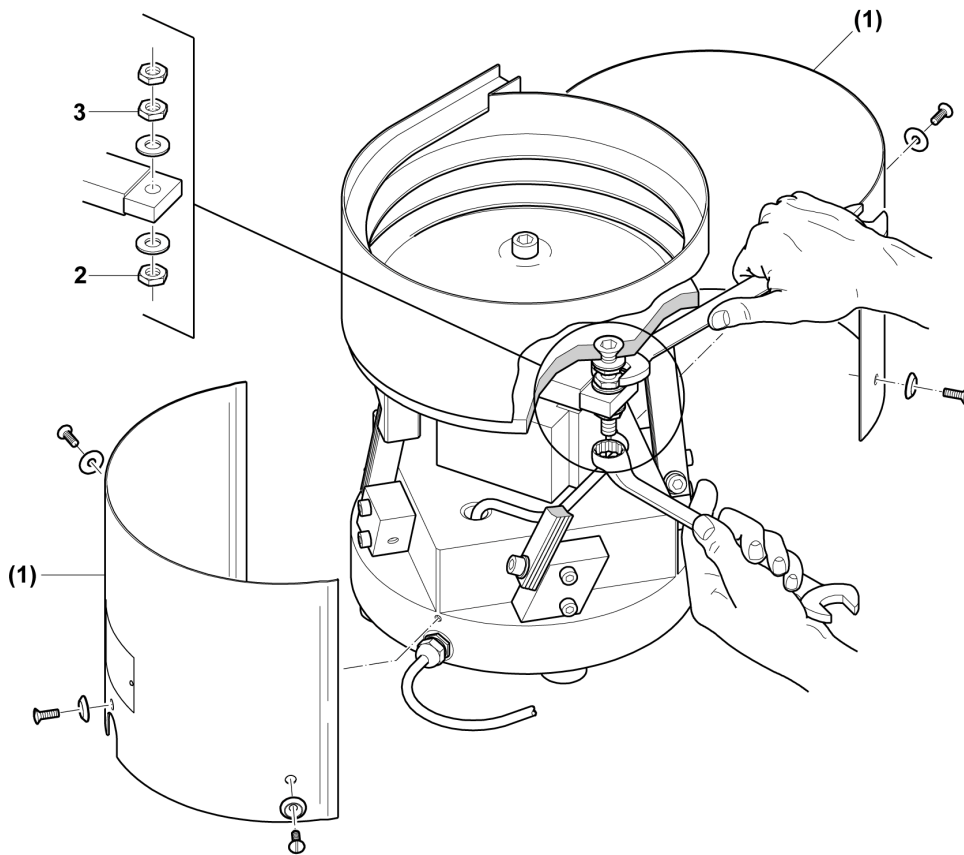

Figure 21
1. remove the casing (1) (see Figure 21)
2. use a ring spanner (size 13) to loosen hex nuts (2) and (3). Now turn the hex nuts in the appropriate direction to alter the air gap. Afterwards, lock the two hex nuts together (see Figure 21).